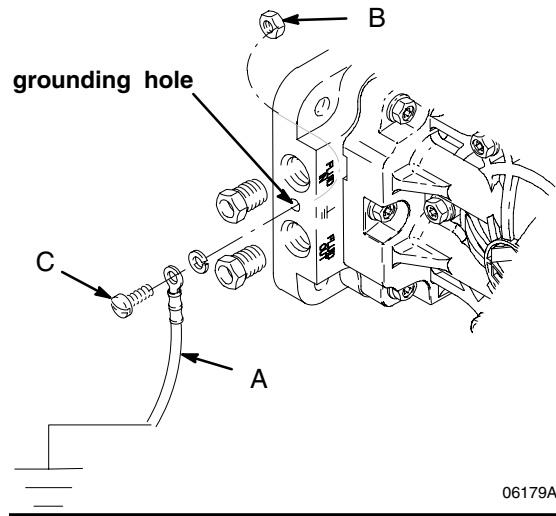

Fig. 1
The *polypropylene and PVDF pumps* are **not** conductive. When you pump conductive flammable fluids, **always** ground the entire fluid system by making sure the fluid has an electrical path to a true earth ground. See Fig. 1. **Never** use a polypropylene or PVDF pump with non-conductive flammable fluids as specified by your local fire protection code. Consult your fluid supplier to determine the conductivity or resistivity of your fluid.
*Pump:* Connect a ground wire (A) and clamp, Part No. 222011. See Fig. 1. The pump grounding locations are on the manifold between the inlet and outlet ports. Use the nut (B) and bolt (C) that are provided with the pump, and install as follows: